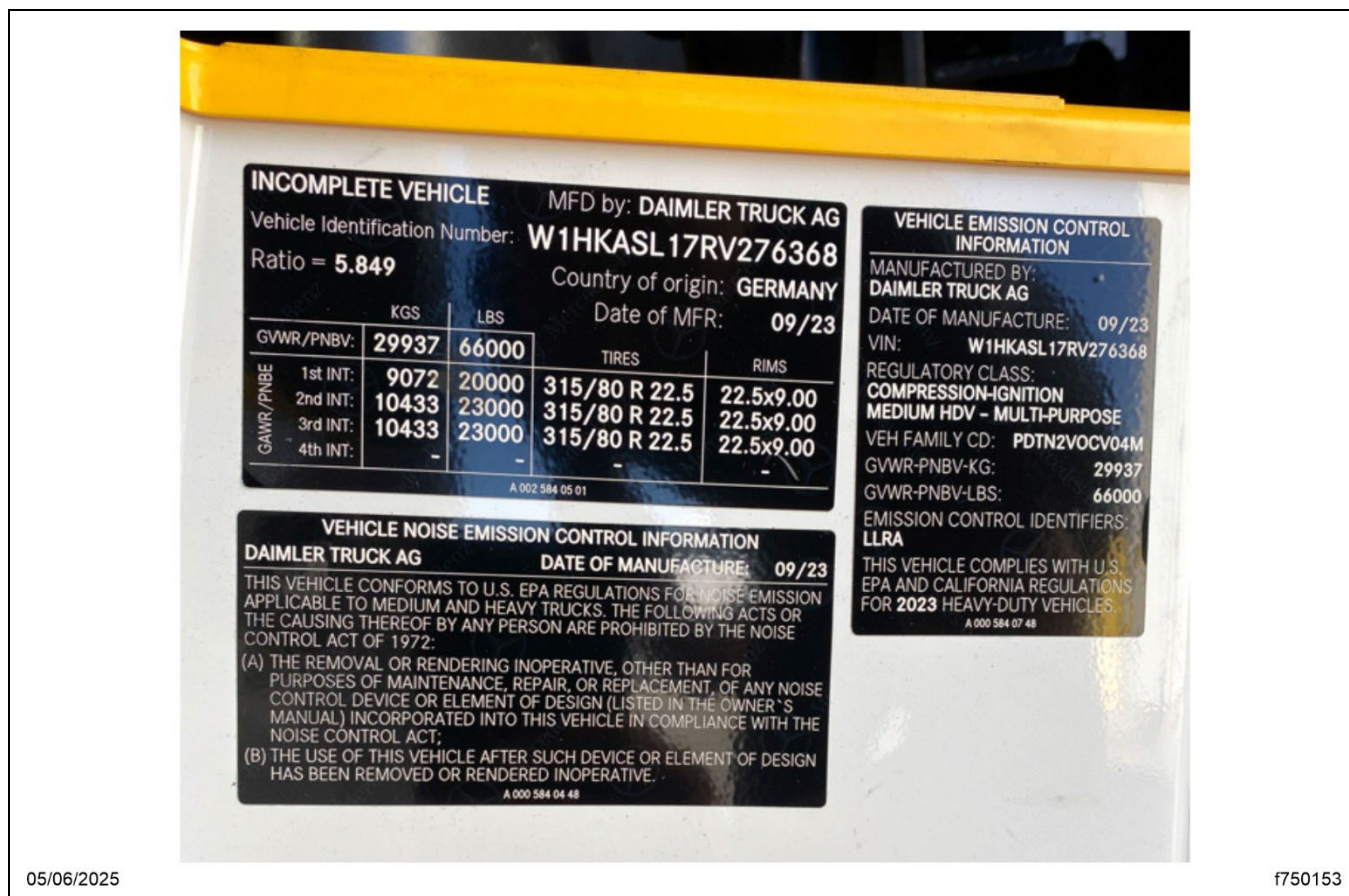

Fig. 4, GHG Label, Econic SD
- Econic SD → The label is located on the inside of the cab on the driver's side. See Fig. 4.